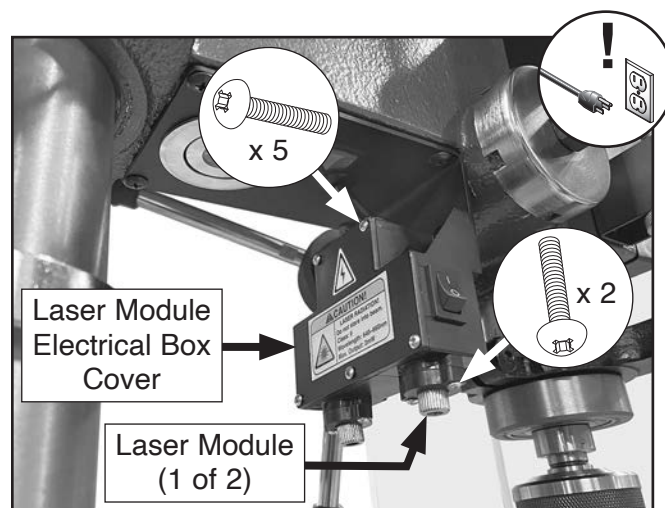

Figure 77. Laser module removal components.
2. Loosen (2) Phillips head screws securing faulty laser module in seat and pull laser module just enough to remove it from seat (see **Figure 77**).
3. Remove (5) Phillips head screws to remove laser module electrical box cover (see **Figure 77**).